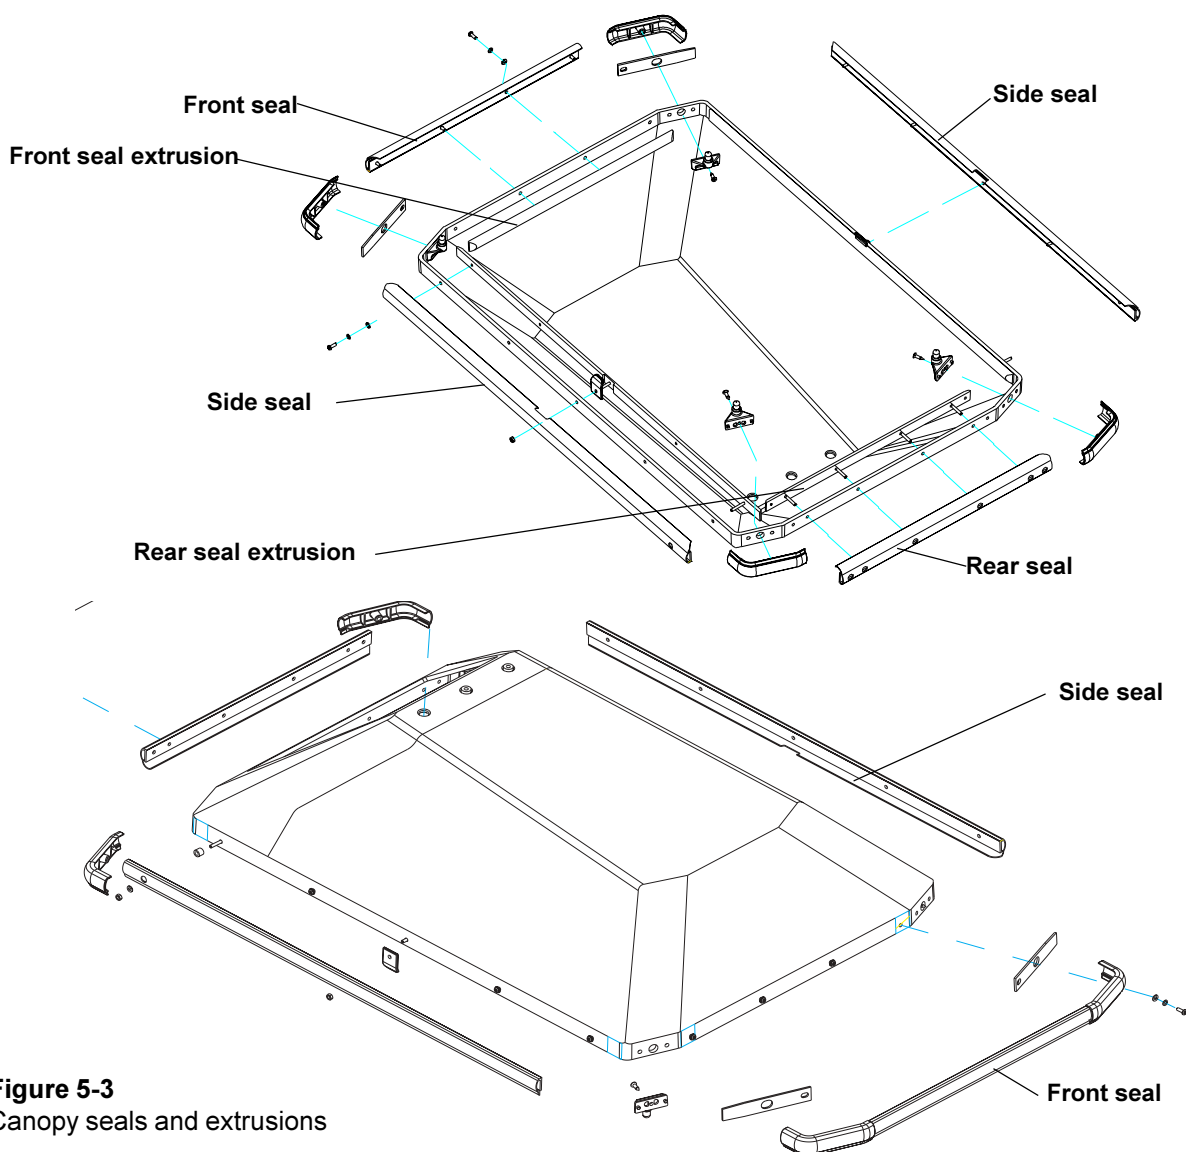

Figure 5-3
5.11 Replacing the Seals (Figure 5-3)